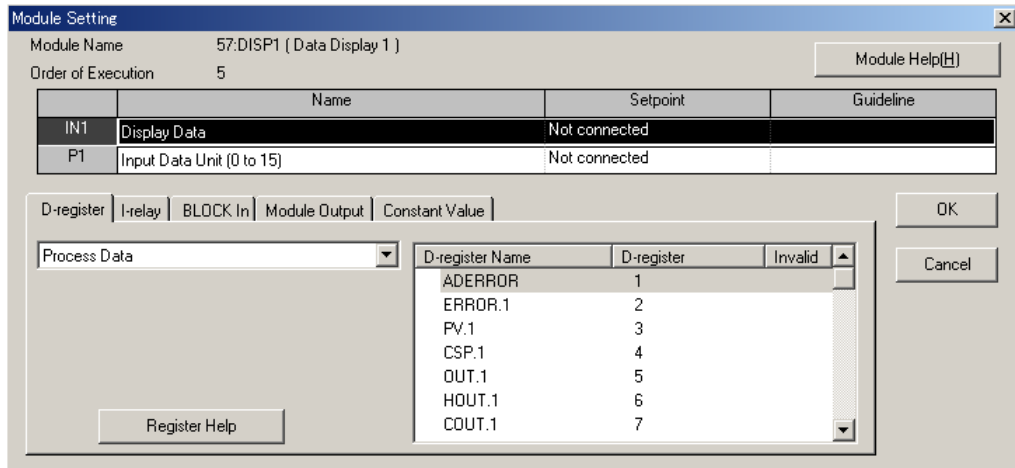

Figure 12.2.4 [Module Setting] Dialog Box
- (1) Click the registered fifth-run DISP1 module.
- (2) From the tool menus, choose <Edit [E]>, then <Connection>. The [Module Setting] dialog box (Figure 12.2.4) appears.